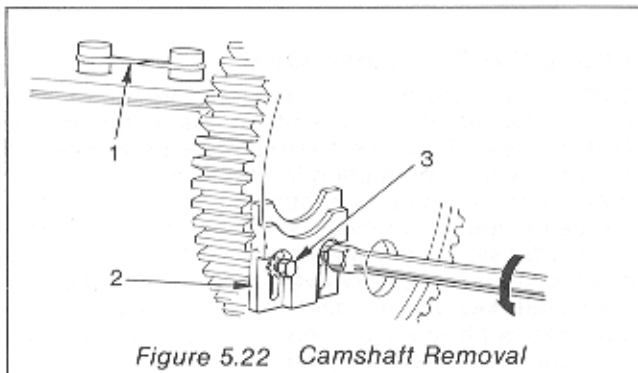

Figure 5.22 Camshaft Removal
CAMSHAFT (Figure 5.22)
- (1) Ensure that all bearing surfaces are clean and lubricated before inserting the camshaft and governor assembly.
- (2) Fit the valve tappets and hold in position using a rubber band or string (Figure 5.22).